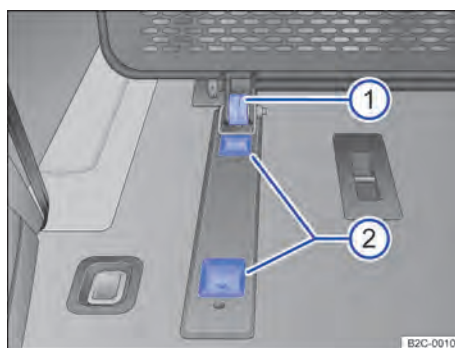

Fig. 155 In the load compartment: Lower anchor point.
2. Push the bottom of the partition grille with the roller → Fig. 155 ① into the rear recess in the anchor point ②.
2. Push the bottom of the partition grille with the roller → Fig. 155 ① into the front recess of the anchor point → Fig. 155 ②.